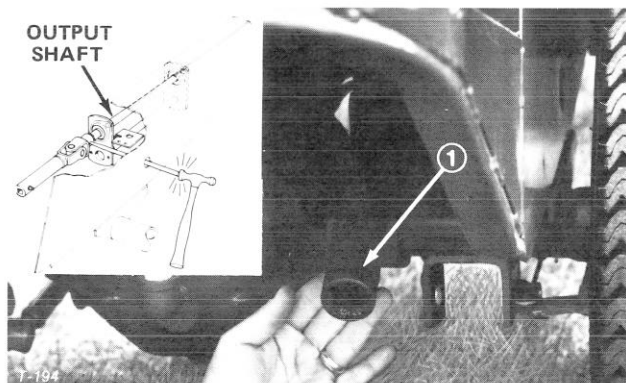

Figure 23
2. Remove five wheel nuts and slide left wheel off axle to expose access hole inside of chassis (Fig. 23).
3. Push PTO lever forward until pulley and brake disengage. Align hole in PTO shaft with hole in chassis (Fig. 23).
4. Through access hole in chassis, drive roll pin out of PTO shaft and output shaft with pin punch and ball peen hammer (Fig. 23).